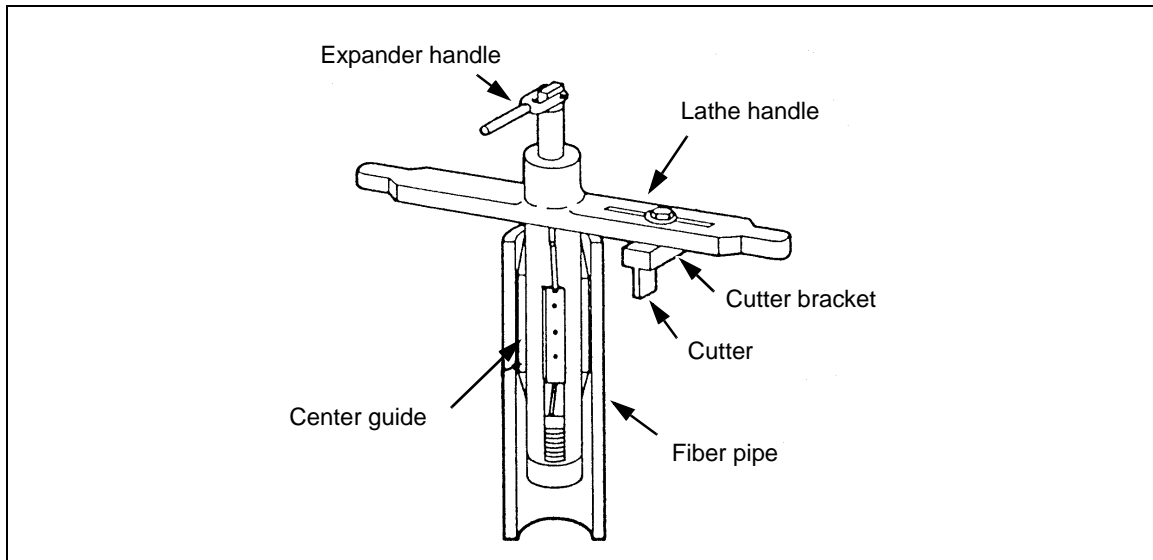

Figure 6-49. Fiber-Pipe Tapering Tool
**Step 2.** Insert the center guide of the tapering tool (*Figure 6-49, page 6-42*) into the pipe until the cutter bracket rests on the end of the pipe.